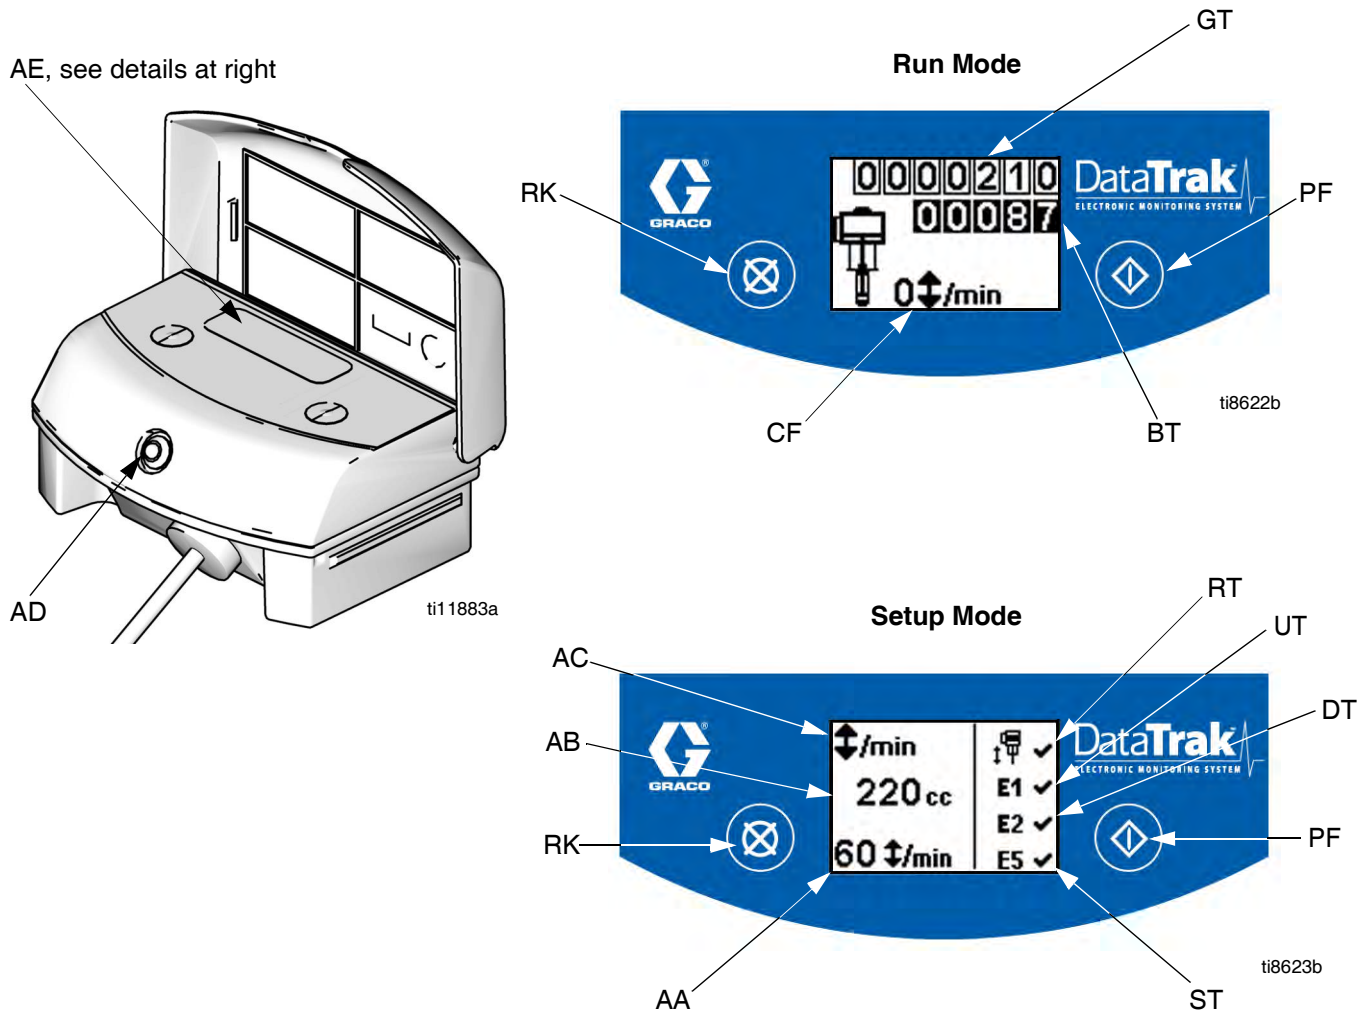

FIG. 8. DataTrak Controls and Indicators
Key for FIG. 8
1. See FIG. 8. Press and hold  for 5 seconds until Setup menu appears.
When runaway, E1, E2, and E5 error options are enabled, a  will appear on the setup screen. See FIG. 8.
1. See FIG. 8. If pump runaway occurs, the runaway solenoid will actuate, stopping the pump. The LED (AD) will flash and the display (AE) will indicate a runaway condition (see Table 1:). The display will cycle through six instruction screens.
2. Runaway Screens 1 and 2: To reset the runaway solenoid, close the master air valve (E). Wait for air to completely bleed off the air motor.
3. Runaway Screens 3 and 4: After the air is bled off, push the solenoid release button (J) down to reset the air valve. The button will pop back up when the air valve is repressurized.
5. Open master air valve (E) to restart pump.
To disable runaway monitoring, go to setup mode and set runaway value to 0 (zero) or toggle (RT) off  (see FIG. 8).
1. See FIG. 8. To enter Prime/Flush mode, press any key to wake up the display, then press . The Prime/Flush symbol will appear in the display and
See FIG. 8. The last digit of the batch totalizer (BT) represents tenths of gallons or liters. To reset the totalizer, press any key to wake up the display, then press and hold  for 3 seconds.
See FIG. 8. The display (AE) will turn off after 1 minute of inactivity in Run mode or 3 minutes in Setup mode. Press any key to wake up the display.
DataTrak can diagnose several problems with the pump. When the monitor detects a problem, the LED (AD, FIG. 8) will flash and a diagnostic code will appear on the display. See Table 1:.